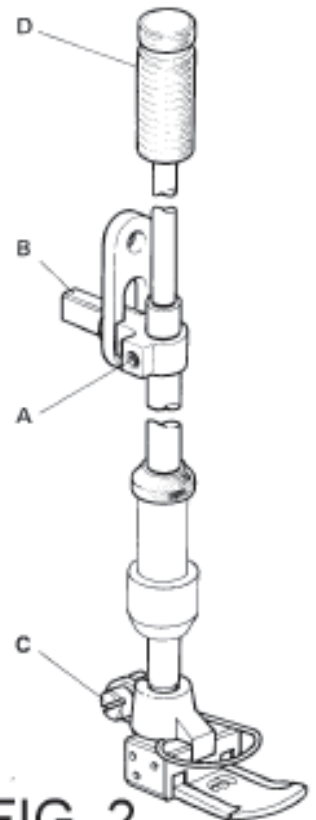

FIG. 2
2. Positioning the Presser-foot And Setting Presser Spring Regulator (Fig. 2)